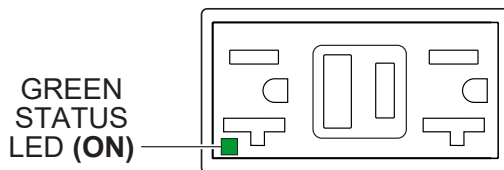

Figure 75. GFCI Receptacle (ON)
3. Verify that the status LED on the corresponding GFCI receptacle (Figure 75) is **ON (GREEN)**.